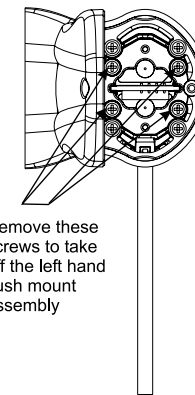

Fig 11: Removing the Left Hand Assembly
- 2) Remove the left hand flush mount assembly by unscrewing the 4 screws that fix the end moulding to the aluminium tube. These are located inside at the bottom of the end moulding. See Fig 11.